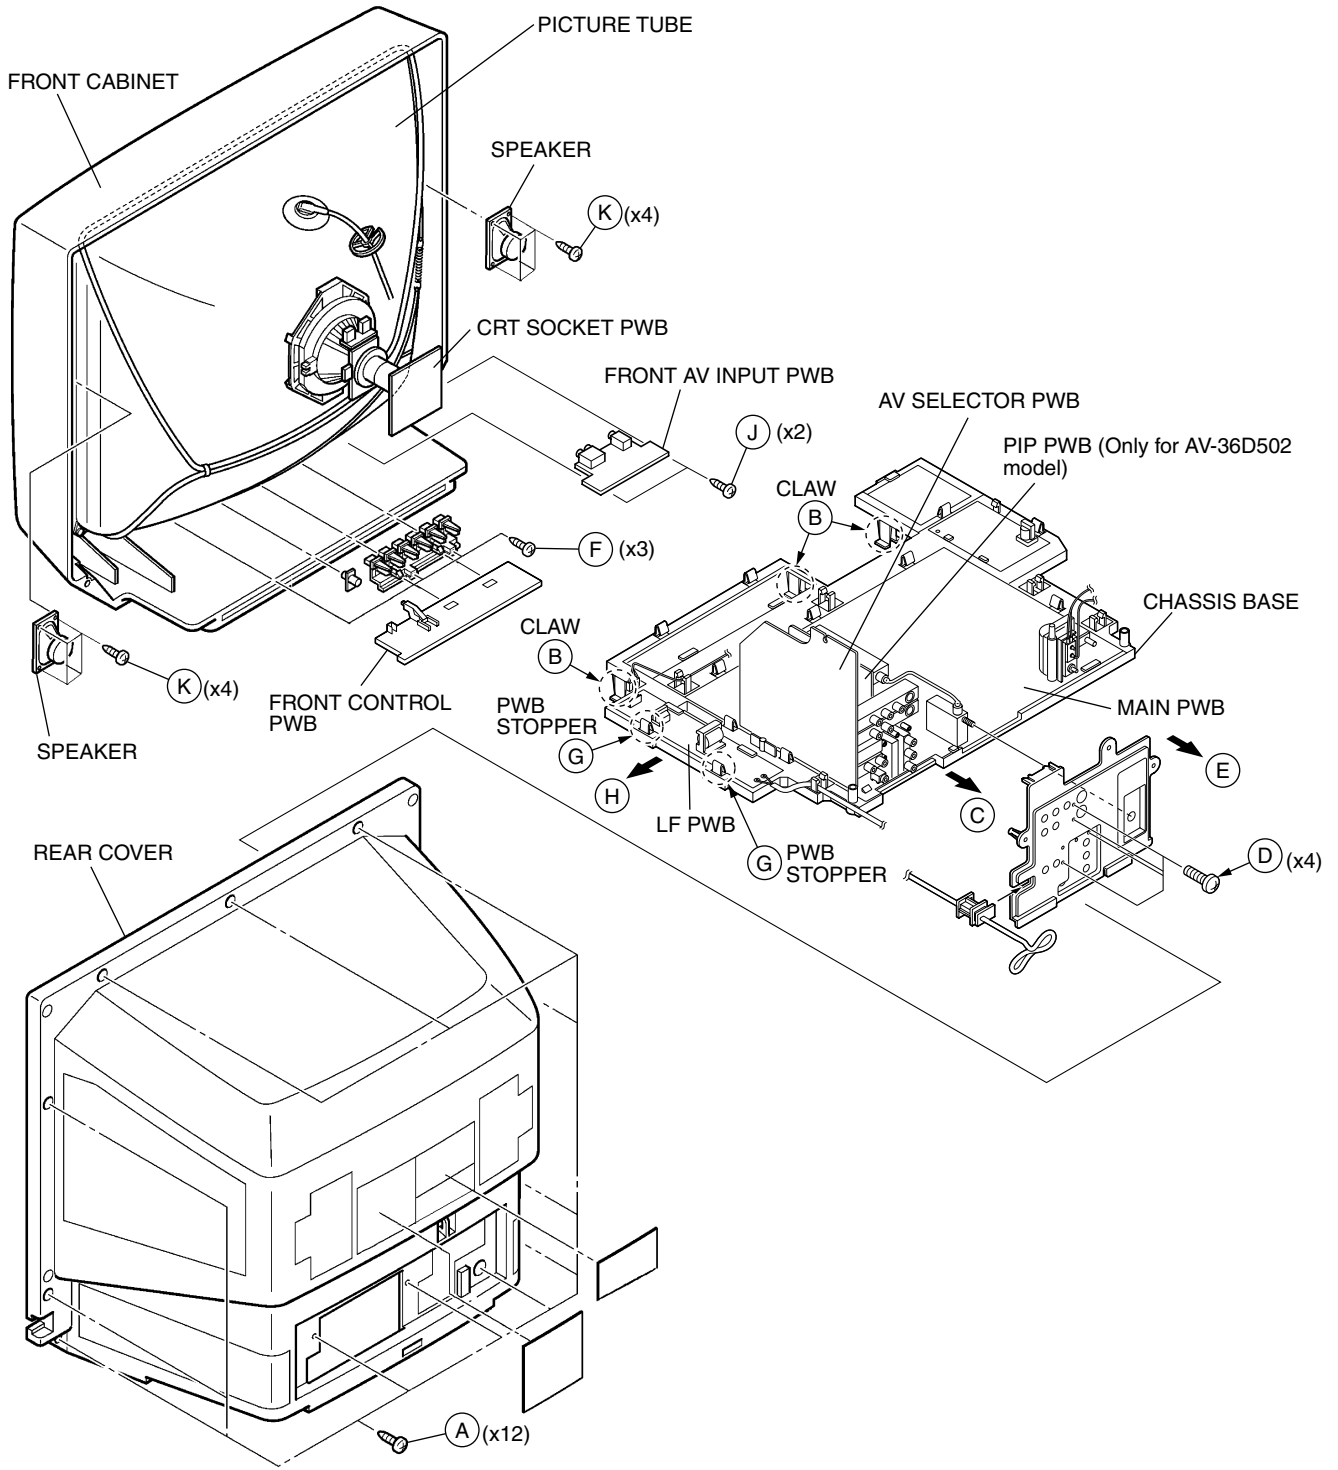

Fig.1
2. Remove the 12 screws marked (A) as shown in Fig.1.
1. Slightly raise the both sides of the chassis by hand and remove the 3 claws marked (B) under the chassis from the front cabinet as shown in Fig.1.
2. Withdraw the chassis backward along the rail in the arrow direction marked (C) as shown in Fig.1.
1. Remove the 4 screws marked (D) as shown in Fig.1.
2. When you pull out the TERMINAL BOARD in the direction of arrow marked (E) as shown in Fig.1, it can be removed.
1. Remove the 3 screws marked (F) and the 2 screws marked (J) as shown in Fig.1.
1. Lift the left side of the LF PWB while pressing the 2 PWB stoppers marked (G) in the arrow direction marked (H) as shown in Fig.1.
1. Remove the 4 screws marked (K) as shown in Fig.1.